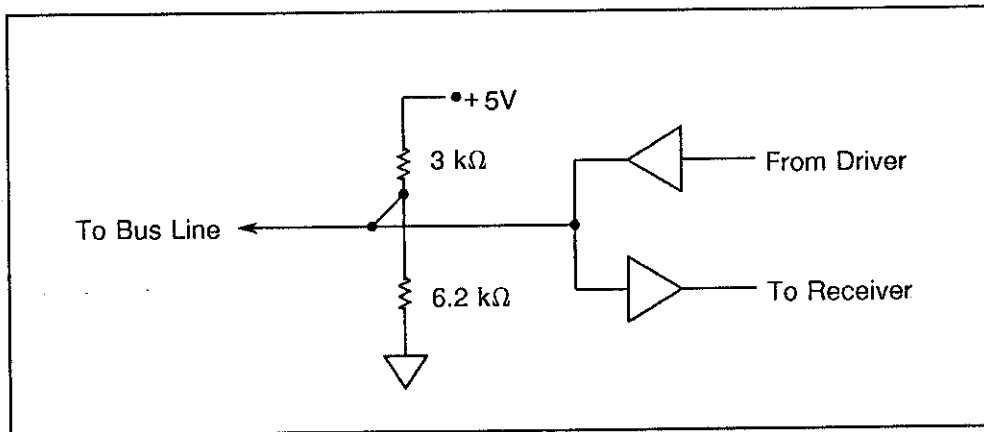

Fig. 1-3 Signal Line Termination
- Signal line termination : The sixteen bus lines are terminated as shown below. (Fig. 1-3)